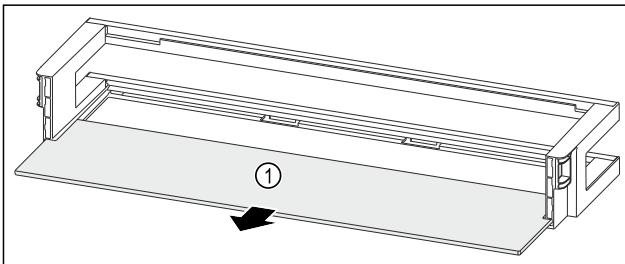

Fig. 87 Door racks with shelf
- ▶ Remove the shelf *Fig. 87 (1)*.